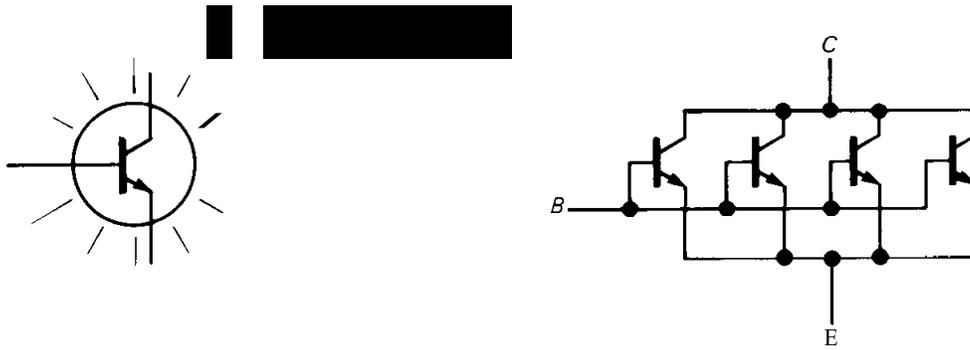

Figure 3.65. A large-junction-area transistor can be thought of as many paralleled small-area transistors.
**High impedance, thermal stability.** The two important advantages of the power MOSFET, compared with the bipolar power transistor, are its high input impedance (but watch out for high input capacitance, particularly with high-current devices; see below) and its complete absence of thermal runaway and second breakdown. This latter effect is very important in power circuits and is worth understanding: The large junction area of a power transistor (whether BJT or FET) can be thought of as a large number of small junctions in parallel (Fig. 3.65), all with the same applied voltages. In the case of a bipolar power transistor, the positive temperature coefficient of collector current at fixed  $V_{BE}$  (approximately  $+9\%/^{\circ}\text{C}$ , see Section 2.10) means that a local hot spot in the junction will have a higher current density, thus producing additional heating. At sufficiently high  $V_{CE}$  and  $I_C$ , this "current hogging" can cause local thermal runaway, known as *second breakdown*. As a result, bipolar power transistors are limited to a "safe operating area" (on a plot of collector current versus collector voltage) smaller than that allowed by transistor power dissipation alone (we'll see more of this in Chapter 6). The important point here is that the *negative* temperature coefficient of MOS drain current (Fig. 3.13) prevents